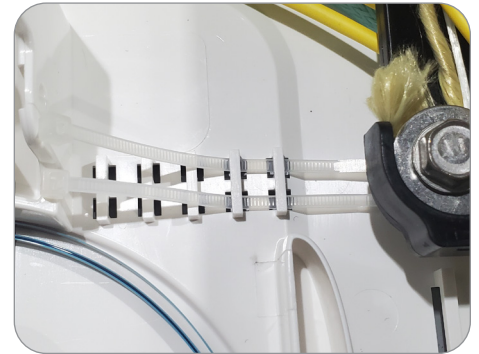

Figure 70
5. Insert two zip ties under the brackets found at the entrance to the splice tray (**Figure 70**). This will be used to secure the subunits or buffer tubes to the splice tray.